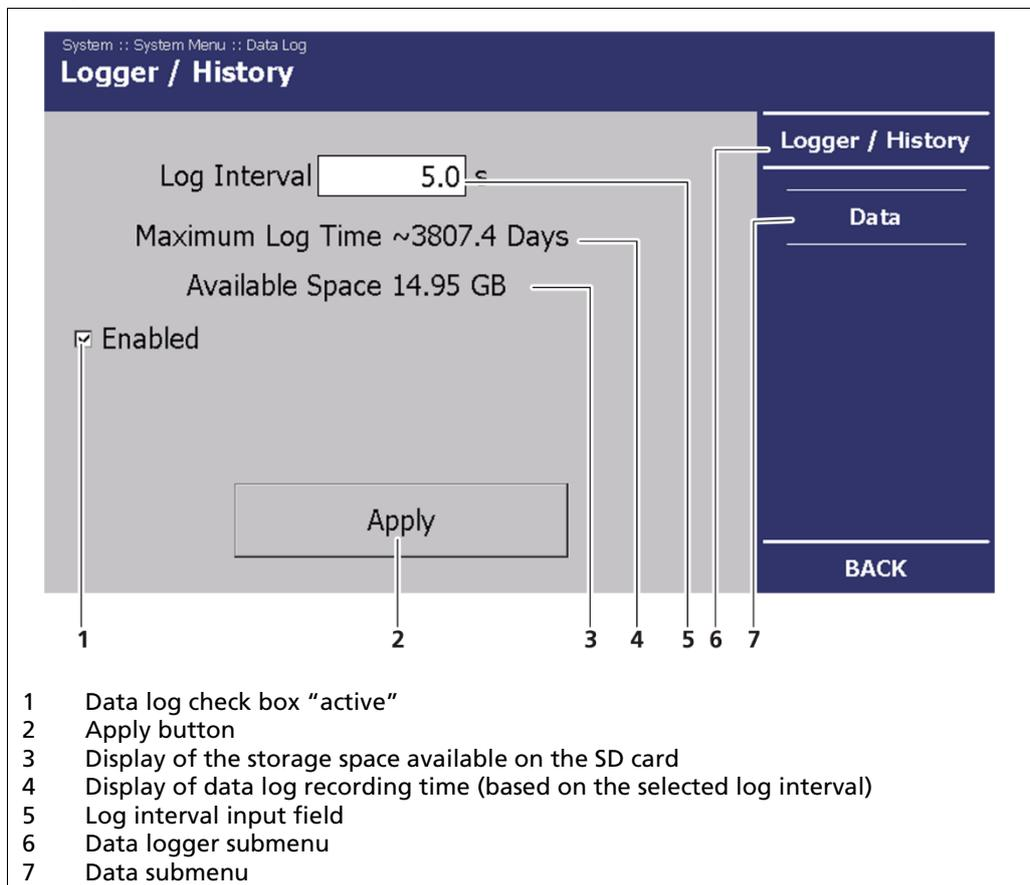

Fig. 34 System Menu, Data log - Data Logger
2. Activate the data log saving by putting a tick in the "Enable" check box (Fig. 34, Item 1).
3. Click on **<Apply>** to initiate the data log saving (Fig. 34, Item 2).
- ▶ If the box (Fig. 34, Item 1) is not set at "Enable", no log data is saved on the SD card.
Log Interval	Shows the log data saving interval (Fig. 34, Item 5)
Maximum Log Time	Shows the maximum log data saving interval depending on the set log interval and the SD card storage capacity (Fig. 34, Item 4).
Available Space	Shows the free storage capacity of the SD card (Fig. 34, Item 3).